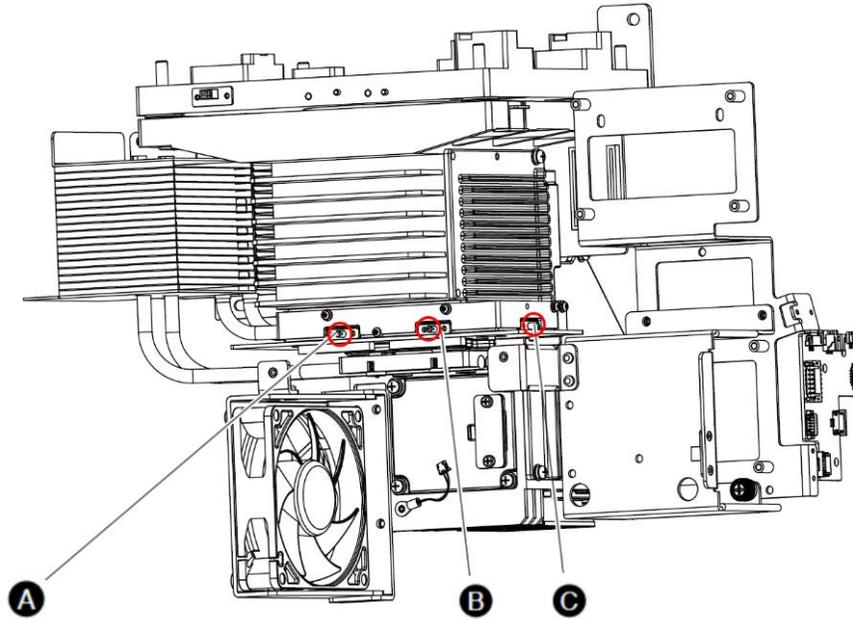

Figure 65:
Step 3: With reference to **Figure 65**; for up-down and rotation adjustment, the **A** or **B** knob screw is adjusted separately for rotation. **A** and **B** knob screws are adjusted at the same time for up-down adjustment and the **C** knob screw is adjusted for left-right adjustment.